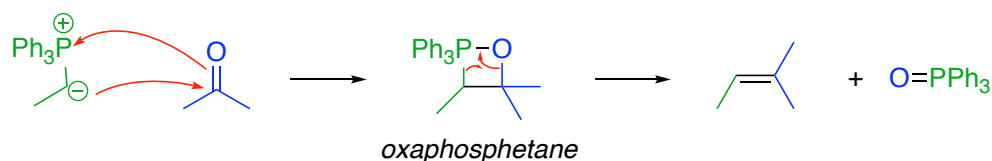

Figure 3. Mechanism of the Wittig Reaction
The mechanism of the Wittig reaction involves cycloaddition of the ylide and carbonyl group to form a cyclic 4-membered ring called an oxaphosphetane. This step can be thought of in terms of the negatively charged carbon of the ylide adding as a nucleophile to the carbonyl carbon. The electrons in the $\text{C}=\text{O}$ π -bond simultaneously react with the positively charged phosphorus to provide the oxaphosphetane. In a second step, the oxaphosphetane fragments, eliminating triphenylphosphine oxide and providing the desired alkene product. (Figure 3)
- 3) Using the mechanism in figure 3 as a guide, show the complete electron pushing mechanism for the Wittig reaction that you be performing in lab.